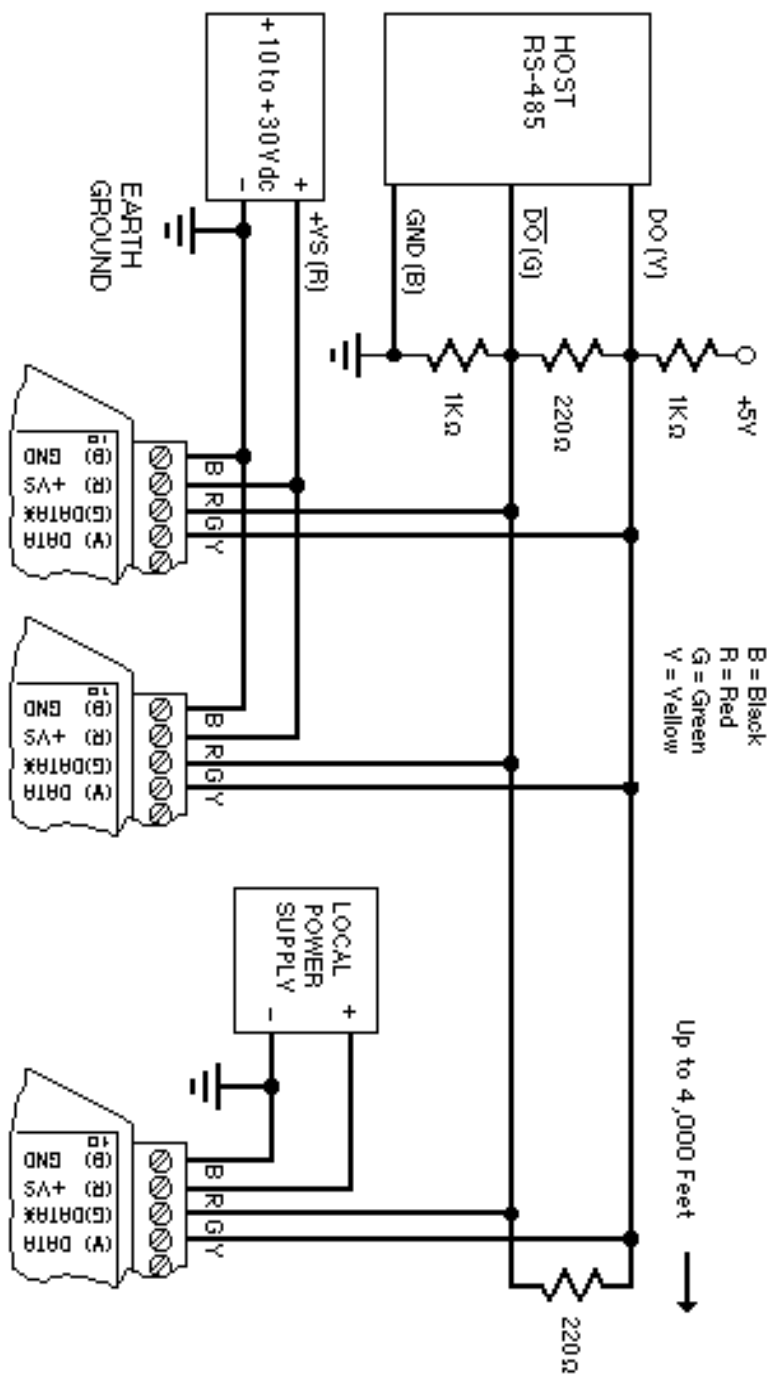

Figure 3.2.RS-485 Network.
Figure 3.2 illustrates the wiring required for multiple-module RS-485 system. Notice that every module has a direct connection to the host system. Any number of modules may be unplugged without affecting the remaining modules. Each module must be setup with a unique address and the addresses can be in any order. All RS-485 modules must be setup for no echo to avoid bus conflicts (see Setup). Also note that the connector pins on each module are labelled with notations (B), (R), (G), and (Y). This designates the colors used on standard 4-wire telephone cable:
During normal operation, there are periods of time where all RS-485 drivers are off and the communications lines are in an 'idle' high impedance condition. During this condition, the lines are susceptible to noise pickup which may be interpreted as random characters on the communications line. To prevent noise pickup, all RS-485 systems should incorporate 1K ohm bias resistors as shown in Figure 3.2. The resistors will maintain the data lines in a 'mark' condition when all drivers are off.